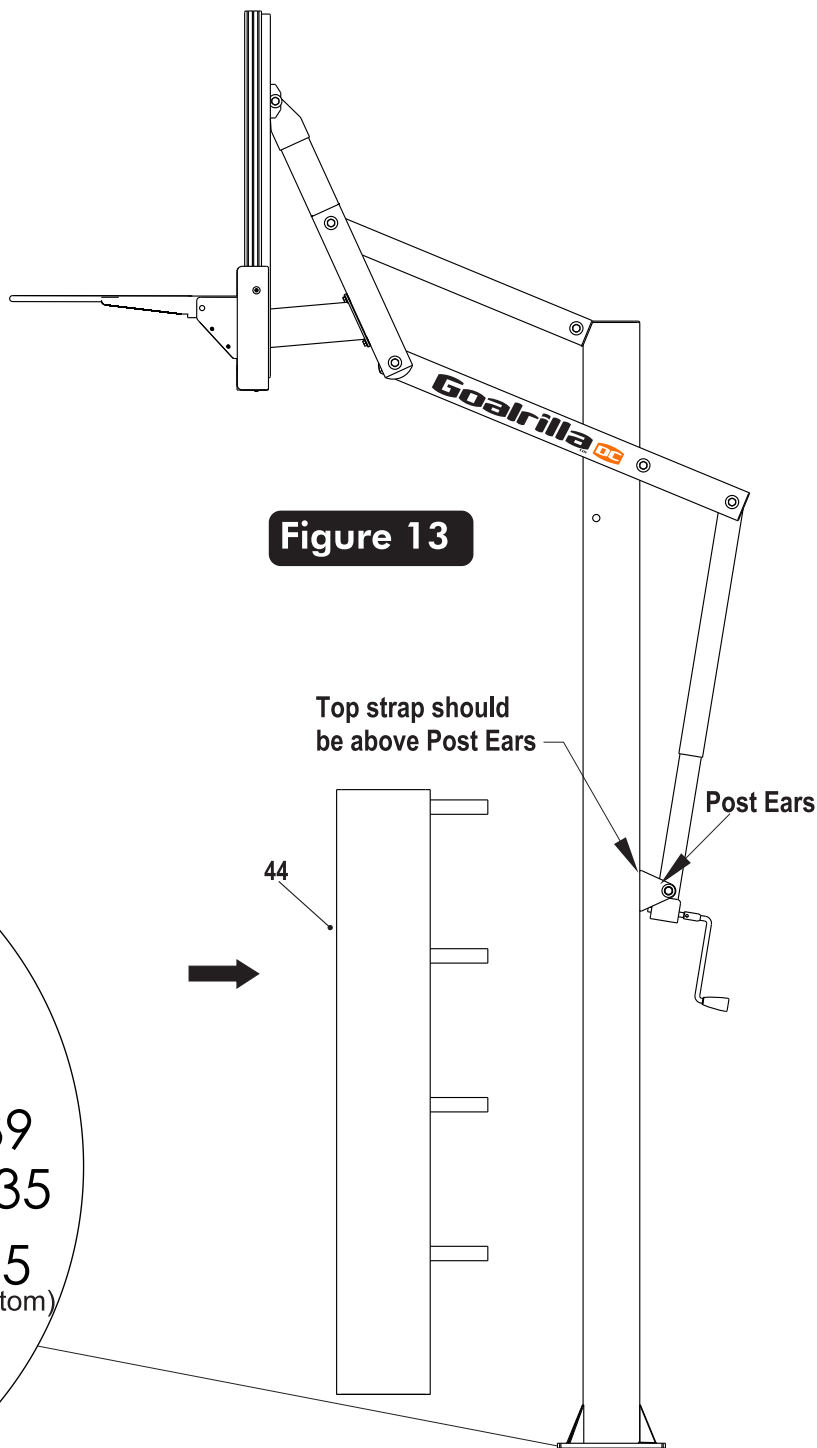

Figure 13
28. Secure Post Pad (#44) to front of pole by wrapping straps around the back pole and sticking to velcro on opposite side of pad. Top Post Pad straps should be above post ears. See **Figure 13**.